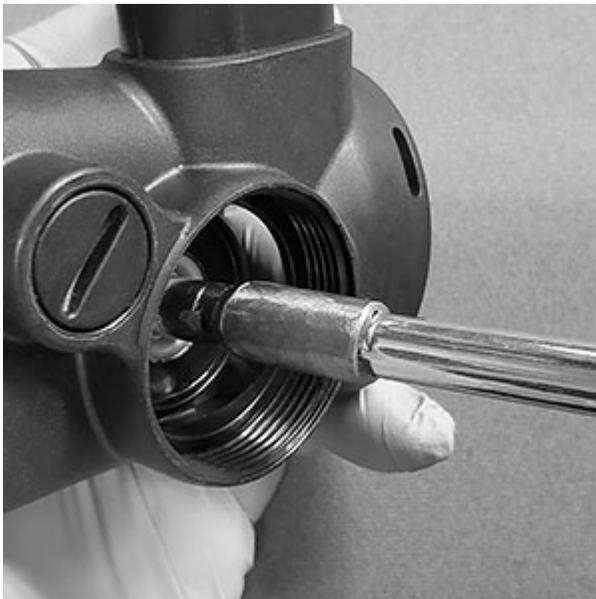
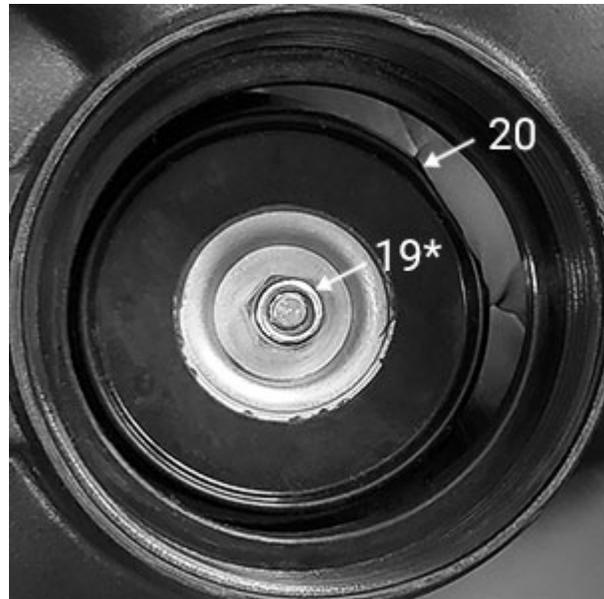

Fig. 35
Fig. 36
7. Using a 5.5 mm nut driver, tighten a Nut (19*) until the Exhaust Seal is firmly attached to the shaft without wiggle or play - Fig. 35. Confirm that you cannot rotate the Exhaust Seal on the shaft after tightening the nut - Fig. 36.